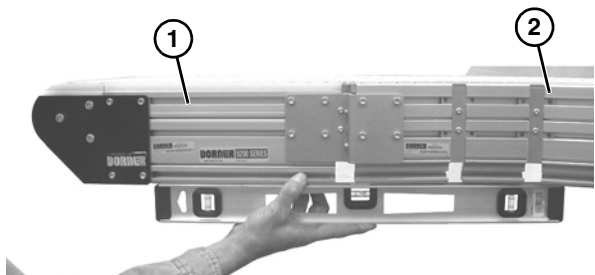

Figure 8
The bottom of the straight frame sections (Figure 8, item 1) and curve frame sections (Figure 8, item 2) must be level.